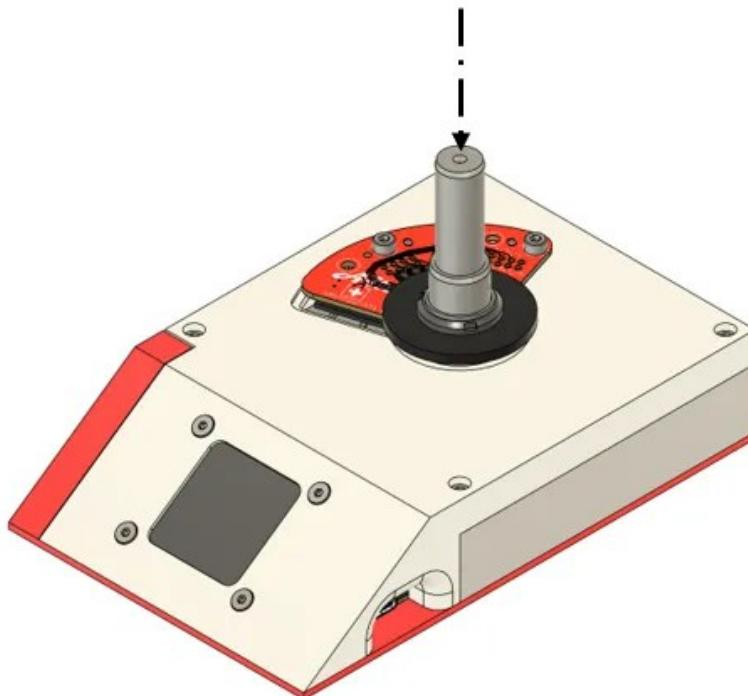

Figure 6: Assembly of the shaft with magnet
- 4) Push the shaft straight into the bearing until it touches the bottom (see figure 6).